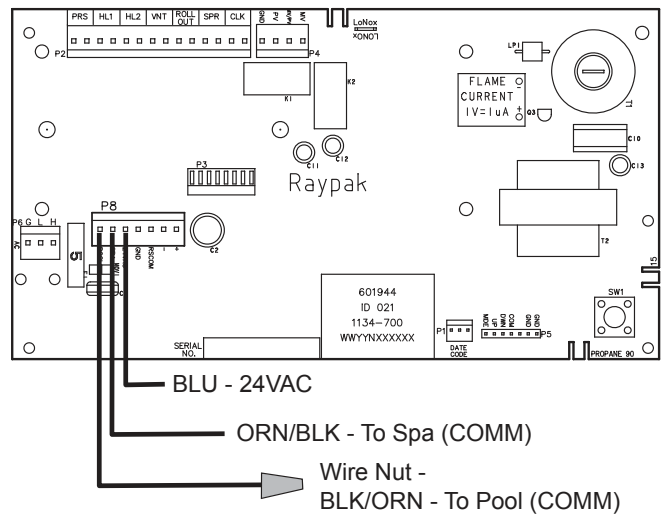

**Figure 30. 7-Pin Remote Interface Harness**
The P-156 heaters are equipped with the ability to work with external remote controls. The supplied 7-pin remote wiring connector supplies power out to either a toggle switch or the switch contacts of a third party remote. See **Figure 30**. The remote works by either making or breaking the circuit created by the remote wiring. Typically, a remote does not supply power to the heater, it only provides a switching function to turn the heater On or Off. **If your remote is supplying its own voltage to the heater, it will not work with this heater and may damage the digital circuit board.**
5. On the "Remote Interface Harness", connect the BLUE wire to one side of the "REMOTE" switch and connect the other side to either the ORANGE/BLACK wire for "SPA" operation or the BLACK/ORANGE wire for "POOL" operation. See **Figure 30**.
4. On the "Remote Interface Harness" connect the BLUE wire to one side of the "REMOTE" switch and connect the ORANGE/BLACK wire for "SPA" operation and the BLACK/ORANGE wire for the "POOL" operation. See **Figure 30**.